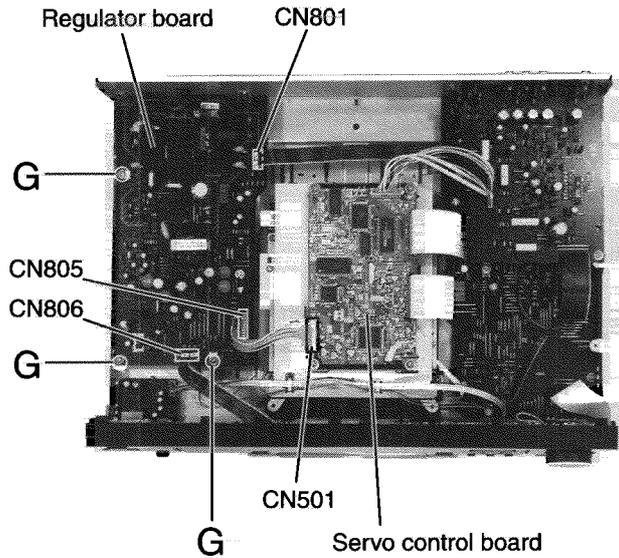

Fig. 9
■ **Removing the Regulator Board (See Fig.9)**